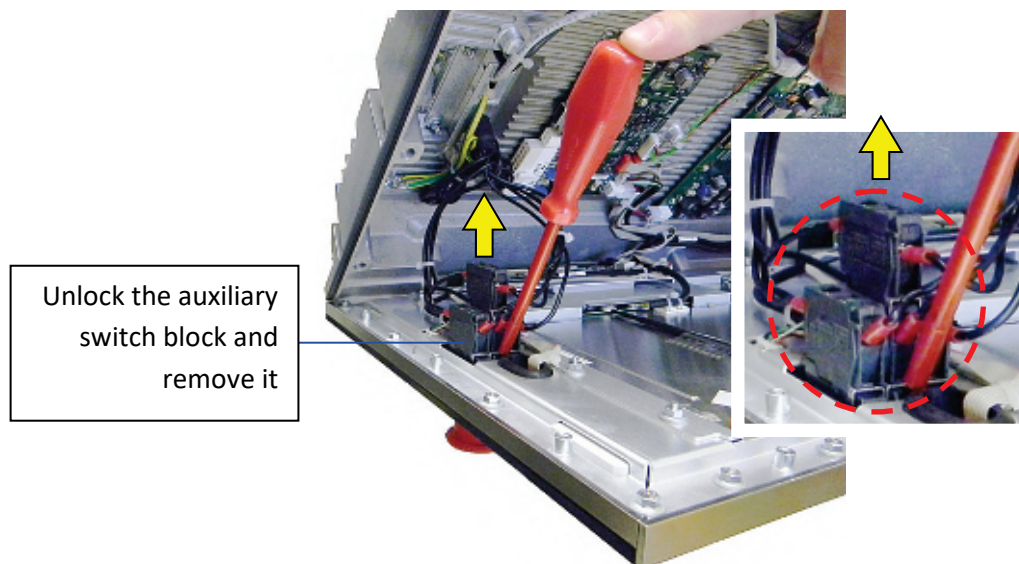
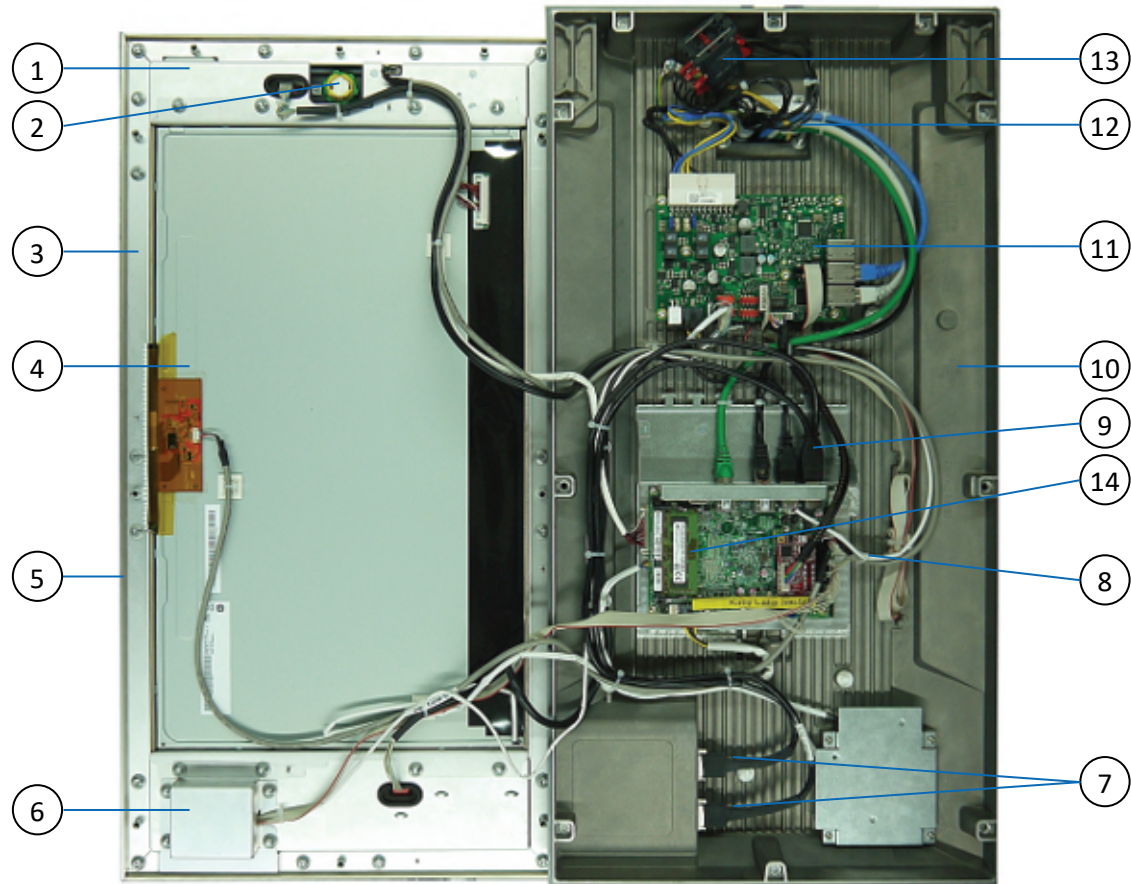

Fig. 27: Unlocking and removing the auxiliary switch block
Fig. 28: CC300 operator panel, fully opened
4. Unlock the auxiliary switch block with a screwdriver and pull it out of its mounting (see Fig. 27).
Legend for Fig. 28:
2. Press the auxiliary switch block of the emergency stop switch (see Fig. 28, Pos.13) into its mounting so that it clicks into place (see Fig. 28, Pos.2 and Fig. 27).
3. Carefully close the housing completely. Make sure that no cables are jammed and that the surrounding seal is in correct position and will not be damaged (see Fig. 28, Pos. 5).
1. Open the CC300 operator panel, as described in chapter 7.5.1 “Opening the CC300 Operator Panel”, steps 1 to 5. The auxiliary switch block will thereby be removed from the pushbutton in step 4 (see Fig. 27 and Fig. 28, Pos. 13).